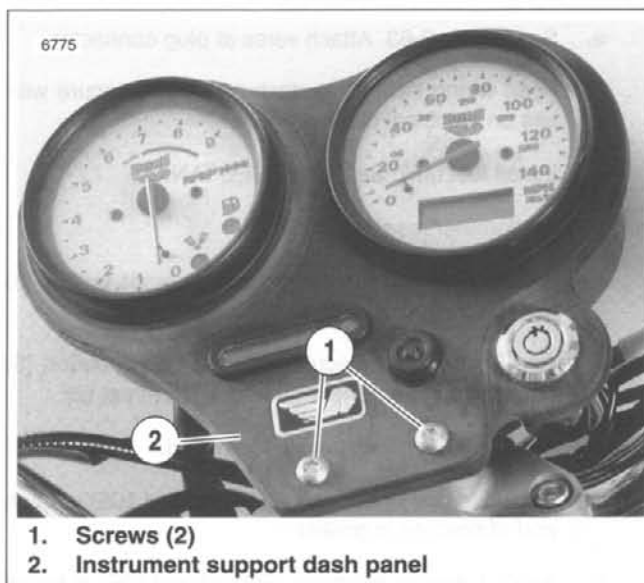
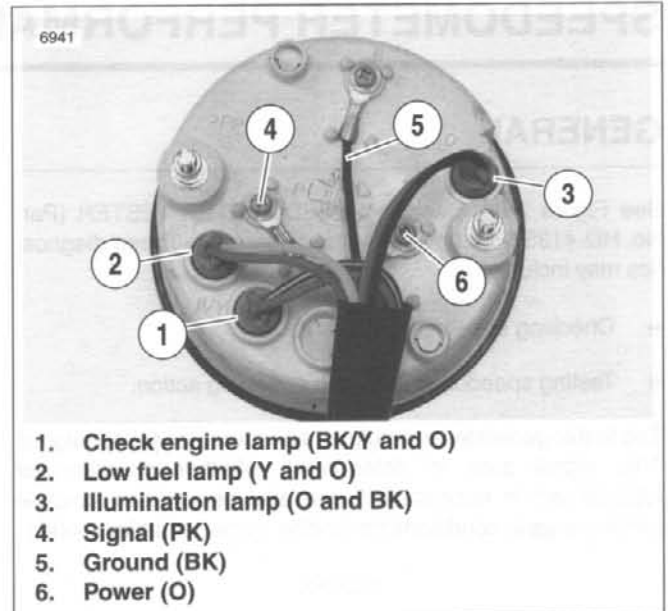

Figure 7-64. Front Dash Panel
Figure 7-66. Tachometer Wiring
2. See Figure 7-64. Detach instrument support dash panel (2) by removing two screws (1) holding panel to instrument support clamp. Pull dash panel upward, but do not damage wiring.
5. See Figure 7-66. Remove wires from tachometer.
- c. See Figure 7-66. Insert lamps (1, 2 and 3) into their appropriate bores.
4. See Figure 7-66. Install tachometer cover (5).
- b. Apply LOCTITE THREADLOCKER 243 (blue) to both nuts (metric) (3).
- c. Fasten cover (5) to tachometer using two nuts (metric) (3) and lockwashers (4).
5. See Figure 7-64. Position dash panel on instrument support clamp.
- a. Attach dash panel using two screws (1) to hold panel to clamp.